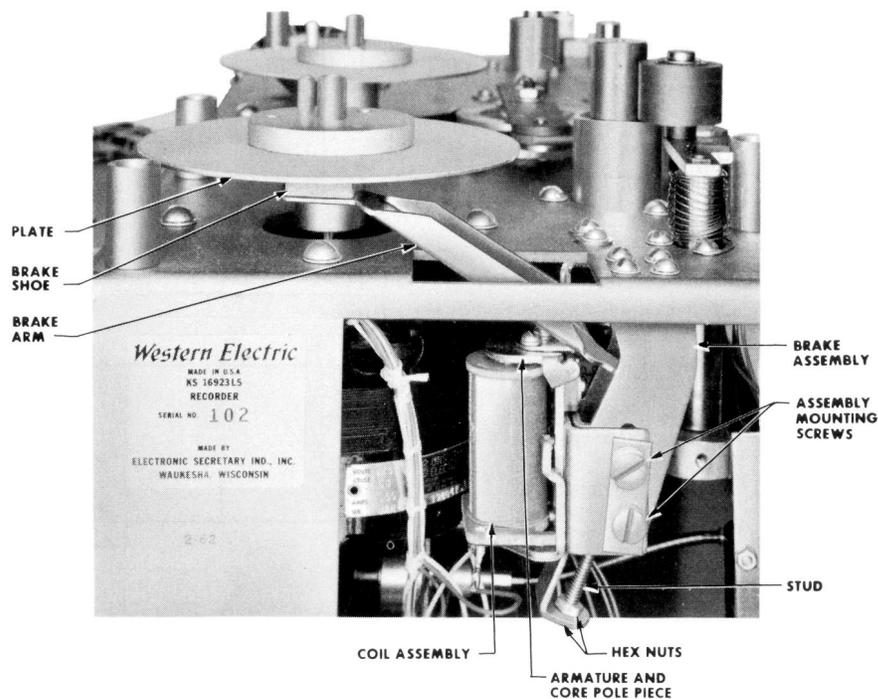

Fig. 10 — KS-16923, List 5 Recorder, End View
10.03 To adjust brake pressure, refer to Fig. 10 and proceed as follows: